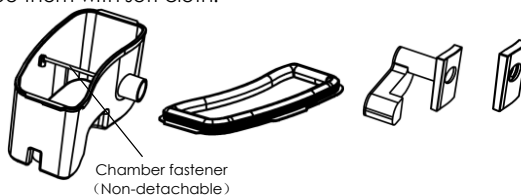

Figure 5-3
6. **Clean the water chamber:** Clean the top cover, base, air intake tube, and sealing element of the water chamber separately with running water, as shown in Figure 5-3, or clean them with scouring pad (use mild dishsoap solution if necessary), then rinse them, and wipe them with soft cloth.